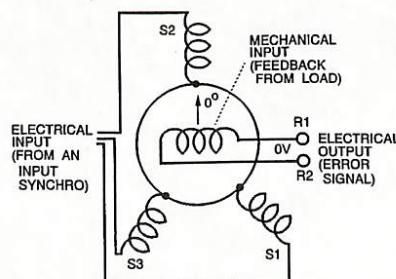

Figure 5. Control Transformer
Control transformer. A control transformer (CT) electrical representation (Figure 5) is very similar to that of a basic synchro, except that the null position occurs when the rotor winding's axis is at a  $90^\circ$  angle in relation to S2.